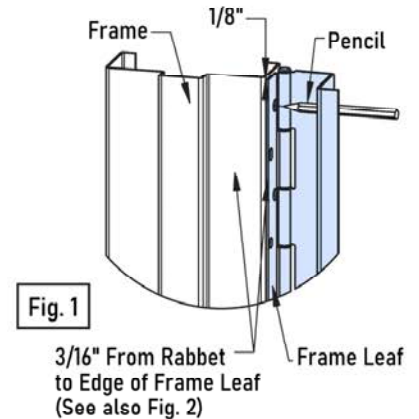

Fig. 1
A. Place hinge frame leaf on frame face. Position top of hinge 1/8" maximum below header. Place hinge firmly against face of frame. Position frame leaf edge 3/16" from rabbet as shown in (Fig. 1 & 2).